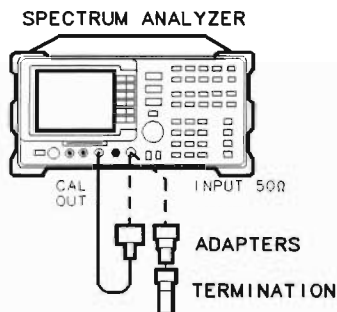

Figure 2-68. Displayed Average Noise Level Test Setup
1. Connect a cable from the CAL OUT to the INPUT $50\ \Omega$ of the spectrum analyzer as shown in Figure 2-68.